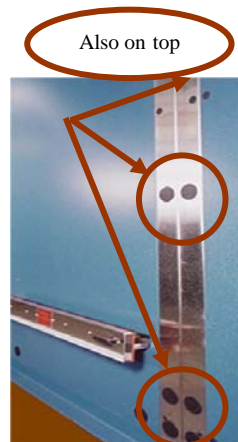

Figure 5
3. Install bolts and nutplates. Refer to Figures 5 and 6. Do not tighten until all bolts and nutplates are installed. After all the bolts and nutplates are installed, rotate the tightening sequence so the bolts and nutplates are tightened evenly.